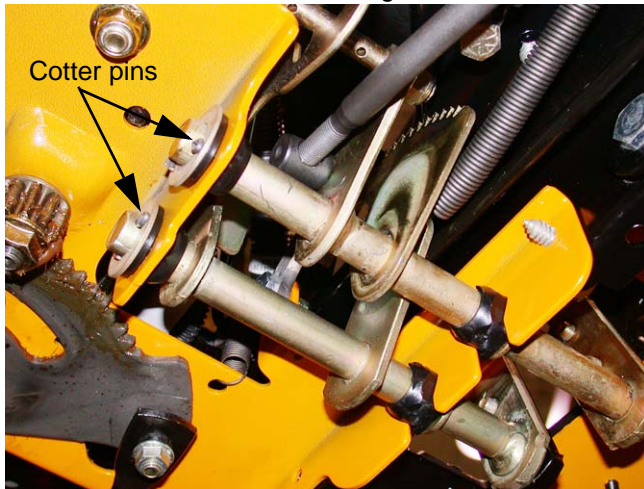

Figure 27.3
- 27.3. Remove and discard both cotter pins that secure the brake pedal shaft and the hydro drive pedal shaft to the frame. See Figure 27.3.